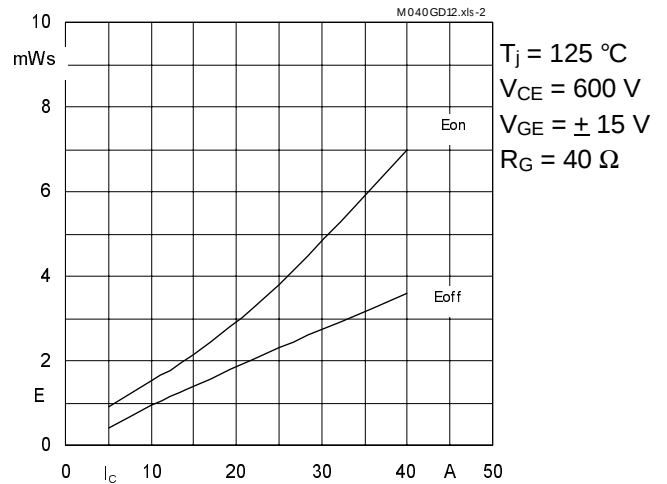

Fig. 2 Turn-on /off energy $= f(I_C)$
- ⁵⁾ See fig. 2 + 3; $R_{Goff} = 40 \text{ } \Omega$